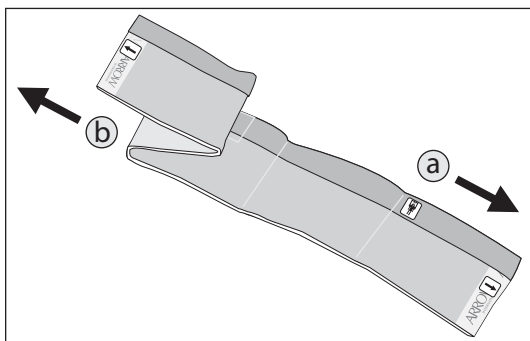

Figure 12
- Unfold width (refer to Figure 12).